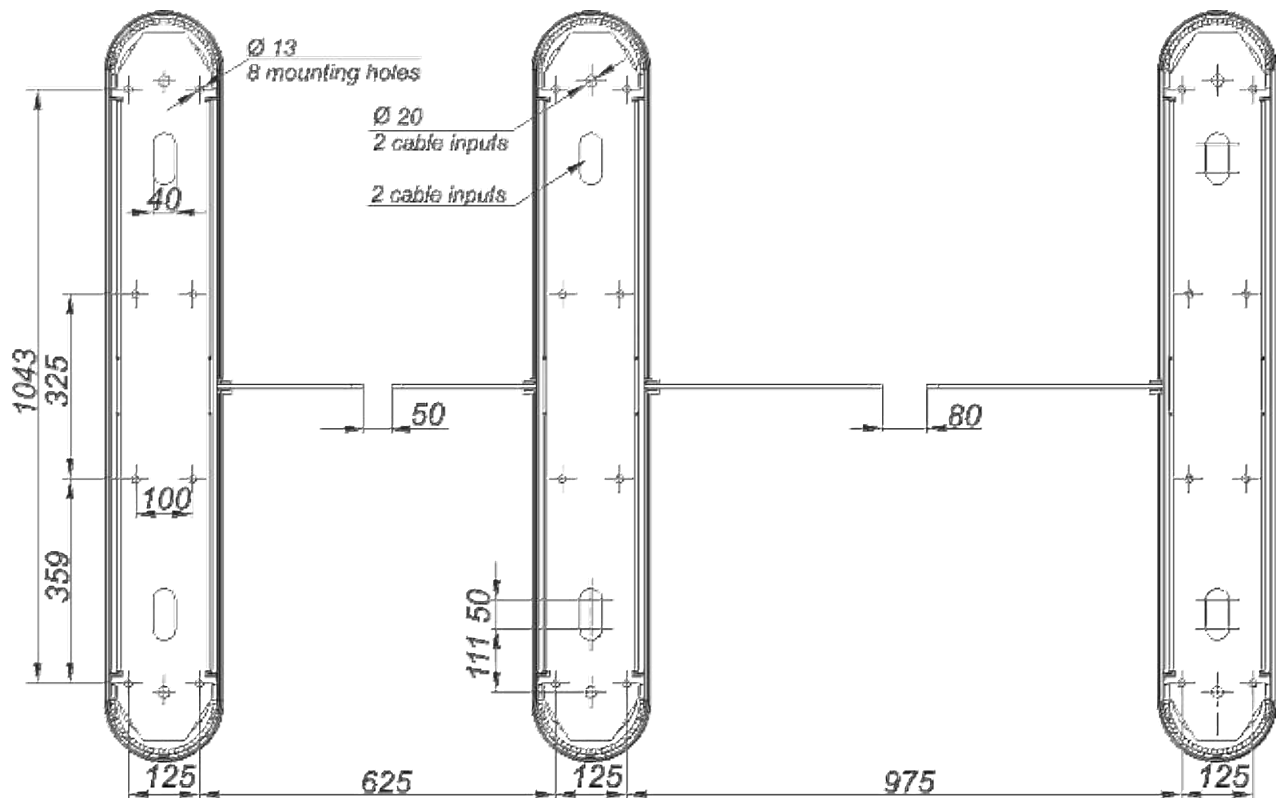

Fig. 17 – Installation dimensions of the "Sweeper-BM-1" and "Sweeper-BM-2" turnstiles set
- 5) The turnstile fixation holes to be marked on the area surface according to Figure 17 (for turnstiles with 550 mm and 900 mm lanes). The turnstile itself can be used as a template.
6. - Fixation holes at the turnstile bottom plate to be aligned with the prepared surface holes according to the marking in Fig.17;